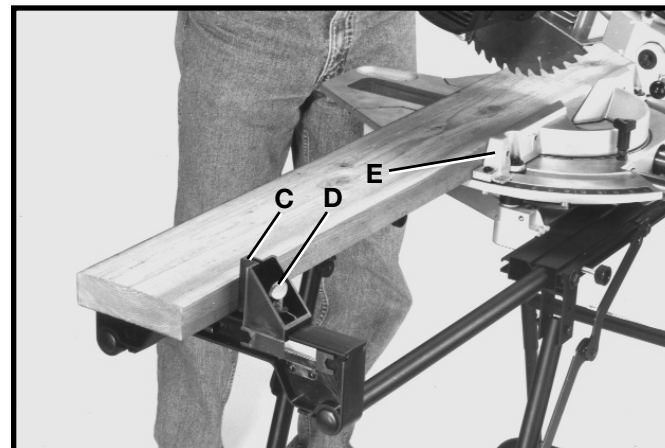

Fig. 53
An auxiliary fence (C) Fig. 53, is provided on each table extension and should be adjusted in line with the saw fence (E) by loosening screw (D) and sliding auxiliary fence (C) until it contacts the workpiece as shown.